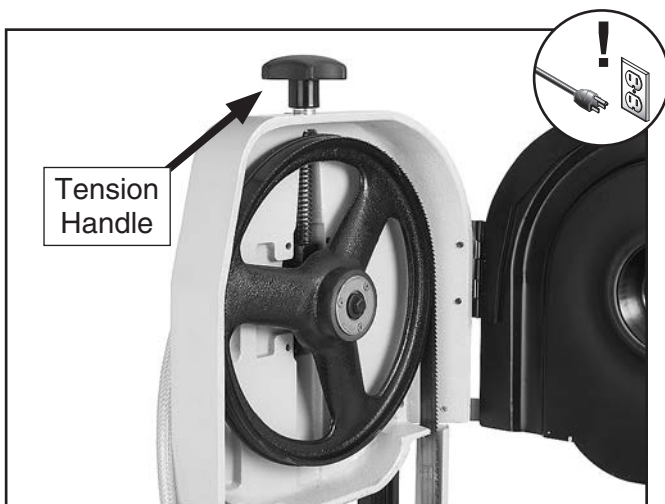

Figure 34. Location of tension handle.
4. Loosen tension handle shown in **Figure 34** and slip blade off of wheels.